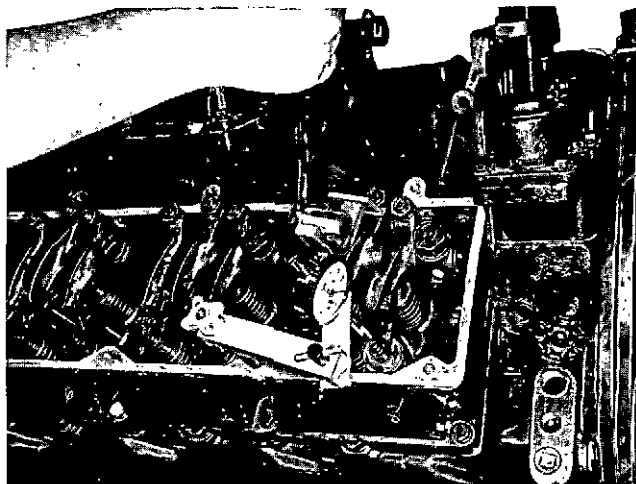

Fig. 2-36 (V514128) Bottoming injector plunger in cup, V-903 series
3. Using ST-1251 rocker lever actuator, Fig. 2-36, bar injector rocker lever forward until plunger is bottomed in cup to squeeze all oil film from cup.
4. Allow the injector plunger to rise and then bottom again and set indicator at zero (0); release and bottom again and set indicator at zero (0); release and bottom plunger again to check setting.